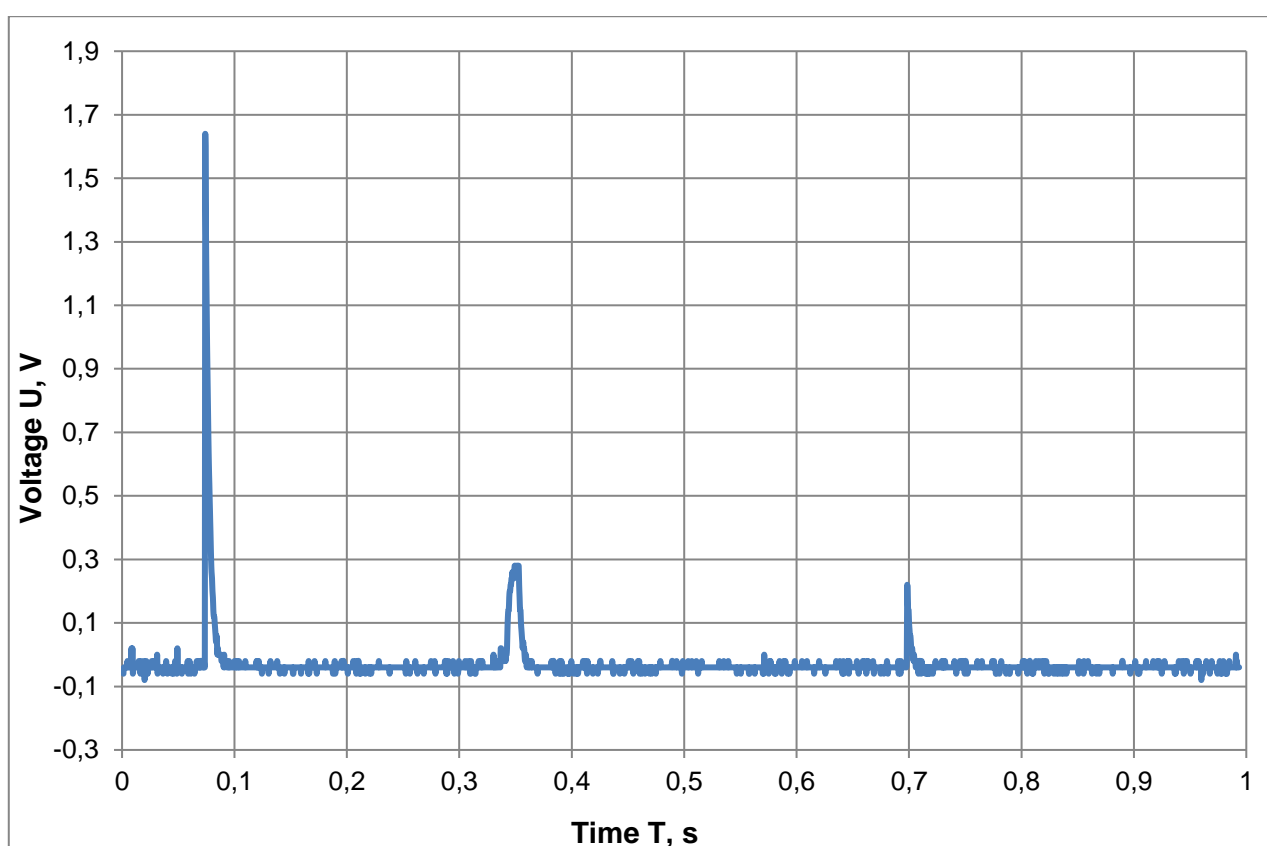

Fig. 1. Typical sensor voltage drop after power up (load resistance $R = 100 \text{ Ohm}$)
- During first 0.01 seconds after power up, sensor consumes up to 18 mA (see Fig. 1).